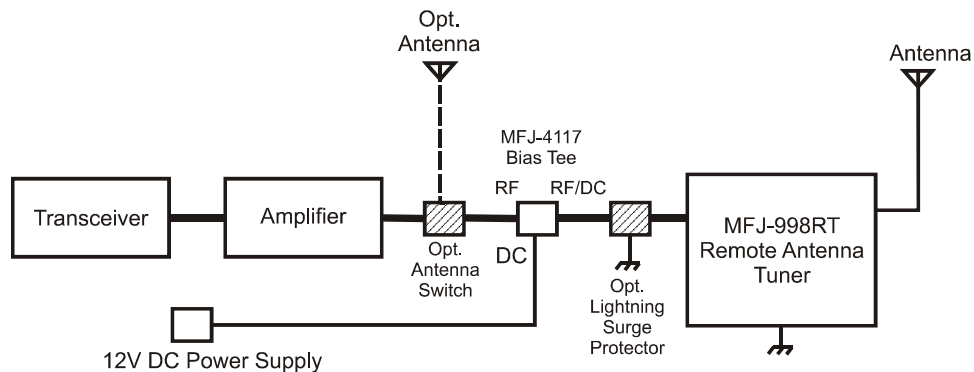

Figure 1 Basic Setup
Connect the MFJ-998RT to the transceiver, the amplifier, and the antenna as shown in Figure 1 and per the following directions:
3. Connect the tuner to the transceiver, the amplifier, and the antenna with 50-ohm coaxial cables capable of handling the RF power levels expected. See Figure 1 on page 4. 3. Connect the antenna(s) to the tuner as follows: